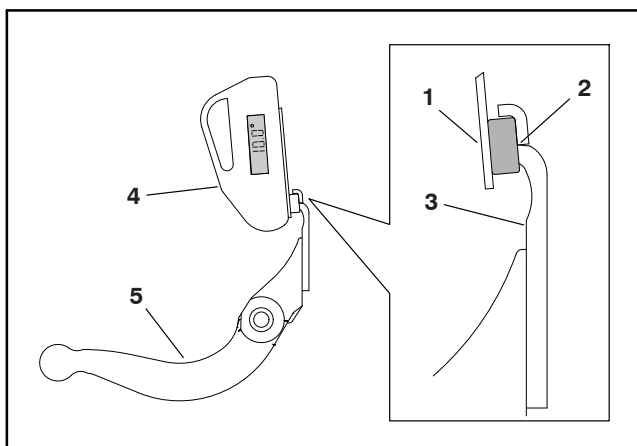

Figure 16
3. Remove the angle indicator and place the angle-indicator mount on the edge of the bedknife so the face of the magnet is flat against the top of the bedknife (Fig. 16).
4. Place the angle indicator on the mount with the digital display facing you as shown (Fig. 16). The angle displayed on the indicator is the current bedknife top angle. The angle measured should be between 8° and 12°.